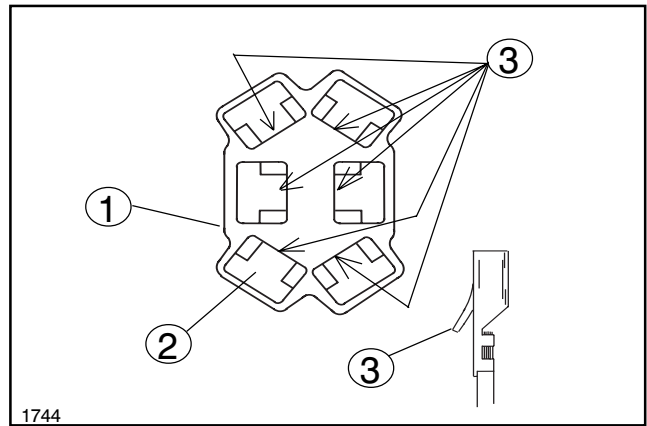

FIG. 4
b. Remove the wires/terminals from the 6-pin connectors using a small flat tip screw driver. Insert the tip of the screwdriver into a socket of the Connector from the side opposite of where the wires go in and on the side where the metal Tang of terminal locks into the connector. See FIG. 4. Press the Tang back completely and pull the wire/terminal from the socket.